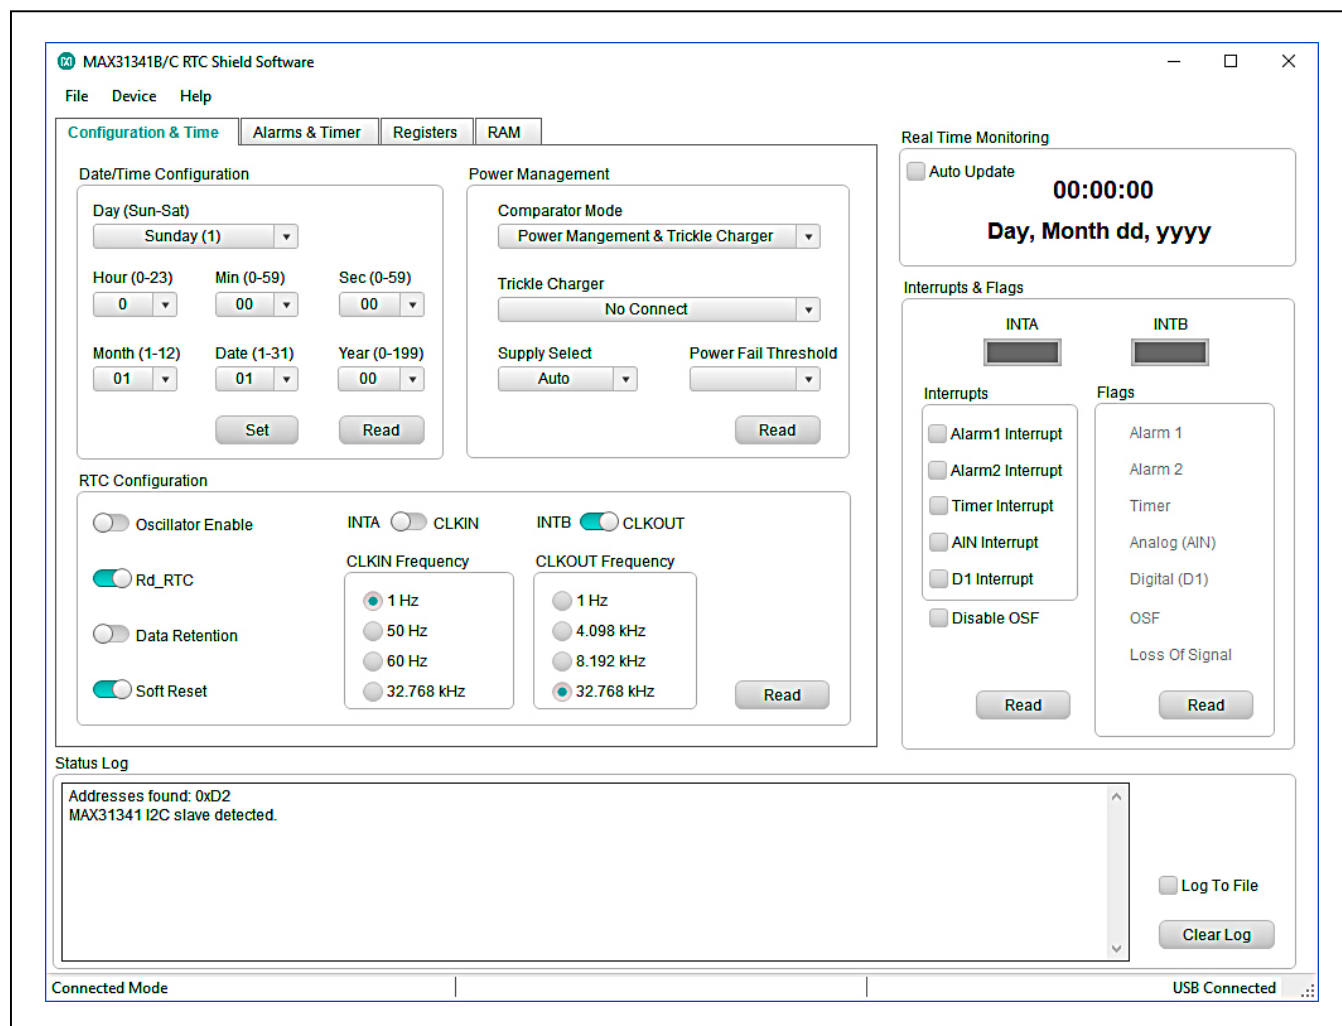

Figure 3. MAX31341B/C RTC Shield Software—Configuration & Time Tab
- 8) Open the MAX31341B/C RTC Shield software. The MAX31341B/C RTC Shield Software **Configuration & Time** tab will open, showing **USB Connected** (Figure 3) in the lower right corner.